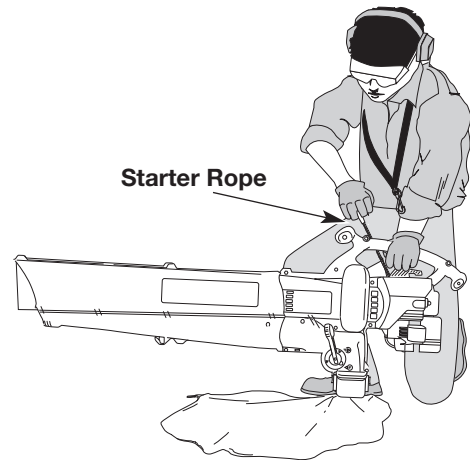

Fig. 12
7. Pull the starter rope out with a **controlled and steady motion** 5 times (Fig. 12).
9. Pull the starter rope out with a **controlled and steady motion** 1 to 3 times to start the engine (Fig. 12).